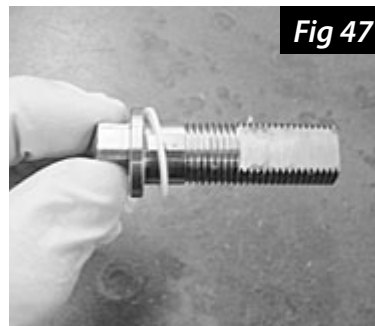

Fig 47
1. Place a new Teflon® spacer on the valve stem (Fig 47).